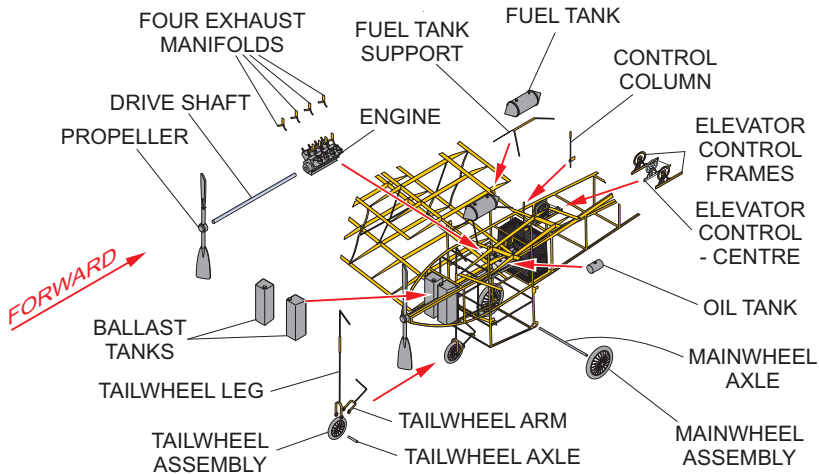

Figure 9
6 LANDING GEAR AND DETAIL PARTS ASSEMBLY (See Figure 9)
- (1) Fold the tail wheel arm and leg as shown in Figure 9.
- (2) Cut a piece of wire for the tail wheel axle.
- (3) Assemble the tail wheel assembly, axle, leg and arm as shown in Figure 9.
- (4) Attach the complete assembly to the fuselage structure.
- (1) Fold the fuel tank support as shown in Figure 9.
- (2) Attach the fuel tank support above the centre section of the upper wing.
- (3) Attach the fuel tank to the fuel tank support.
- (1) Attach an elevator control frame to each side of the elevator control centre as shown in Figure 9, to make the elevator control assembly.
- (2) Attach the elevator control assembly to the top of the fuselage structure, forward of the cockpit.
- (3) Attach the control column inside the basket.